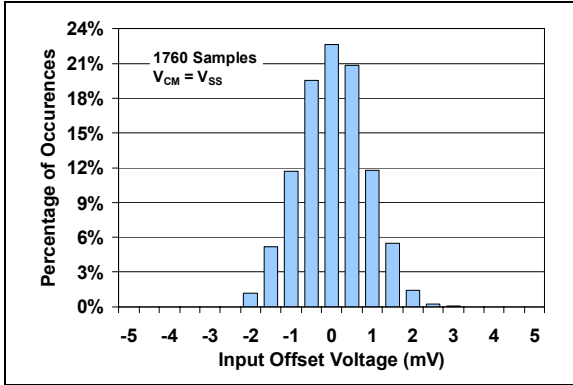

**FIGURE 1-1:** AC and DC Test Circuit for Most Specifications.
**Electrical Characteristics:** Unless otherwise indicated,  $V_{DD} = +1.8V$  to  $+6.0V$ ,  $V_{SS} = GND$ ,  $T_A = +25^{\circ}C$ ,  $V_{CM} = V_{DD}/2$ ,  $V_{OUT} \gg V_{DD}/2$ ,  $V_L = V_{DD}/2$  and  $R_L = 100$  k $\Omega$  to  $V_L$ . (Refer to Figure 1-1).
**Electrical Characteristics:** Unless otherwise indicated,  $T_A = +25^\circ\text{C}$ ,  $V_{DD} = +1.8$  to  $+6.0\text{V}$ ,  $V_{SS} = \text{GND}$ ,  $V_{CM} = V_{DD}/2$ ,  $V_{OUT} \approx V_{DD}/2$ ,  $V_L = V_{DD}/2$ ,  $R_L = 100\text{ k}\Omega$  to  $V_L$  and  $C_L = 60\text{ pF}$ . (Refer to Figure 1-1).
The circuit used for most DC and AC tests is shown in Figure 1-1. This circuit can independently set  $V_{CM}$  and  $V_{OUT}$ ; see Equation 1-1. Note that  $V_{CM}$  is not the circuit's Common Mode voltage ( $(V_P + V_M)/2$ ), and that  $V_{OST}$  includes  $V_{OS}$  plus the effects (on the input offset error,  $V_{OST}$ ) of temperature, CMRR, PSRR and  $A_{OL}$ .